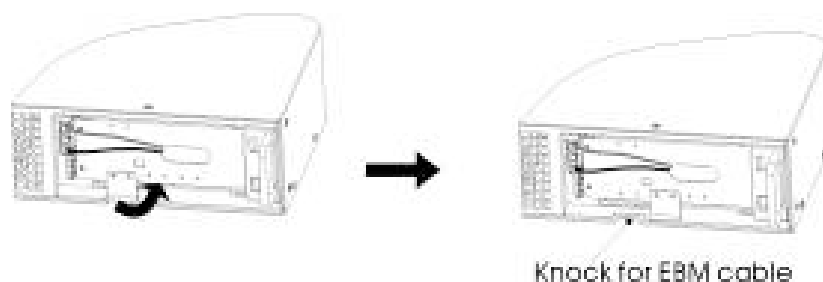

Figure 9: Removing the UPS Cable Knockout
- b) On the bottom of the UPS front cover, remove the EBP cable knockout (see Figure 9).